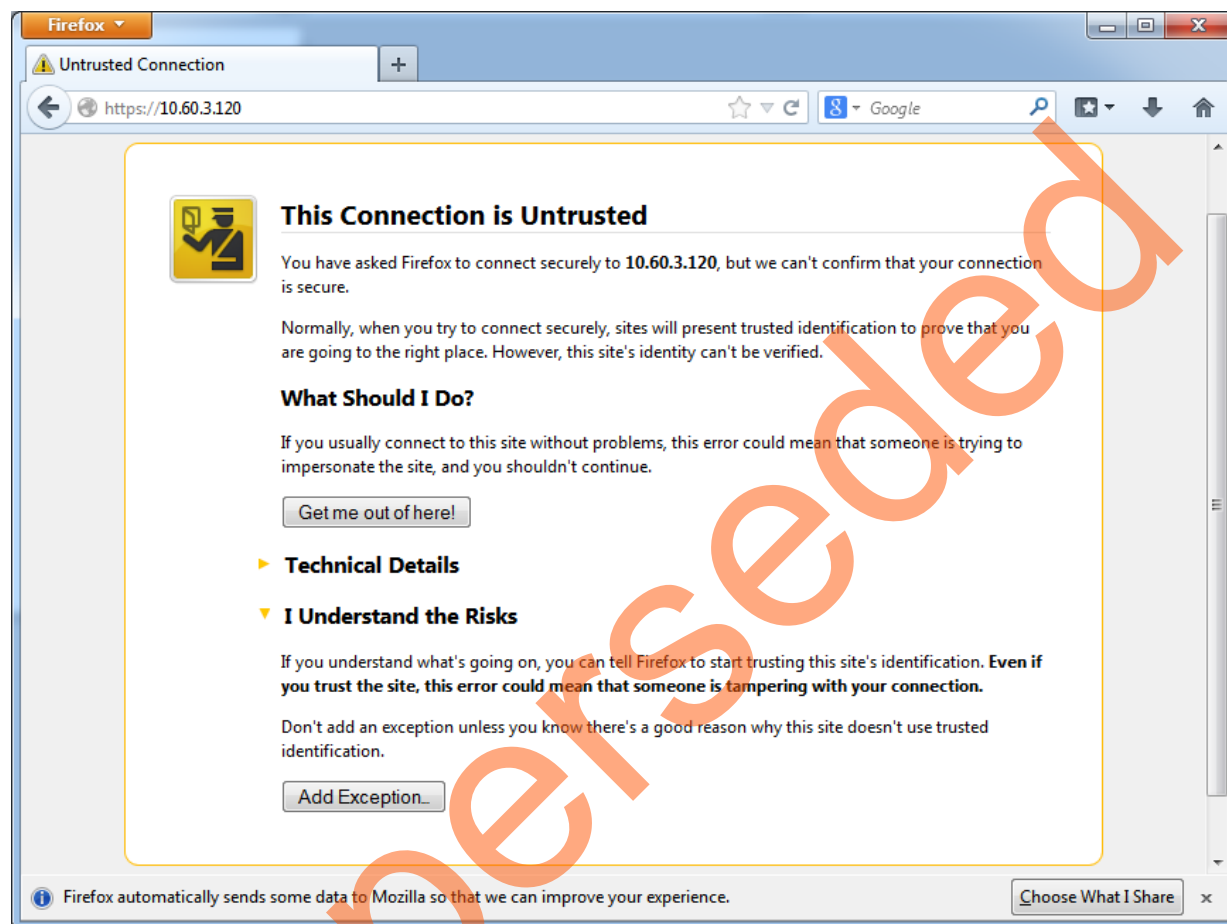

Figure 15 • Mozilla Firefox showing Warning Message
1. Open the Mozilla Firefox browser and enter the URL (for example, <https://10.60.3.120>) in the address bar. The browser shows a warning message as shown in Figure 15.